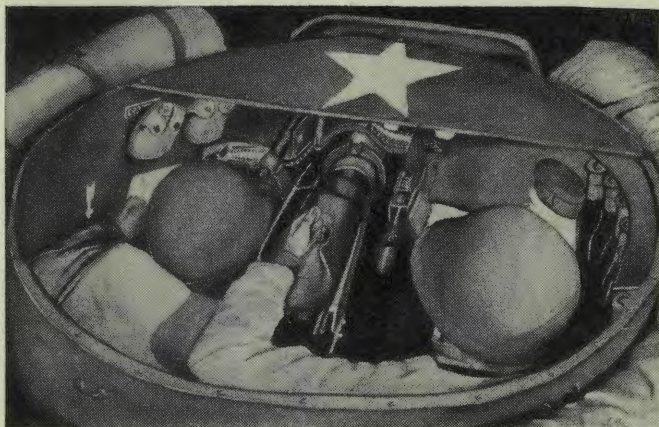

FIGURE 6.—Mounted action.
■ 17. LOADING.—The car commander grasps the cartridge at the base with his left hand, turns the projectile to the front, swings his arm toward the breech, and inserts the round in the opening. After the nose of the projectile enters the chamber, he propels the round forward by a quick push with his thumb and fingers on the base of the round, and moves the arm upward to clear the closing breechblock. (See fig. 6. Note position of fingers.) He then touches the leg of